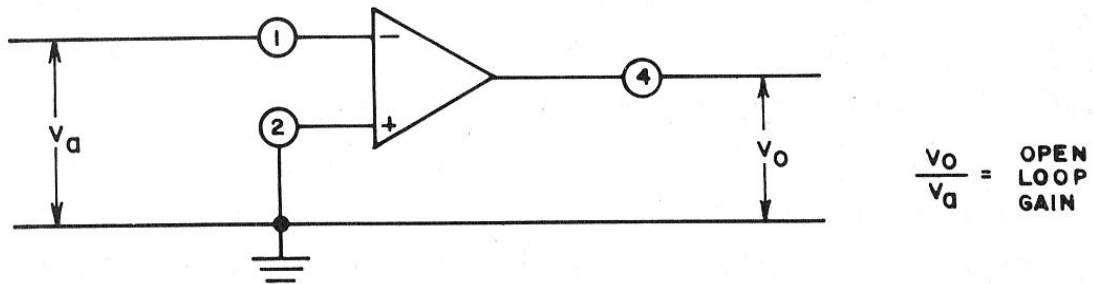

Figure 2-5. Open-loop amplifier circuit.
The first and simplest op-amp circuit is what we call an *open loop amplifier*, which is shown in Figure 2-5. The *ratio* of the output to input voltage, V_o/V_a , is called *open loop gain*.^{*} The gain of a good op-amp is large, sometimes as much as 10^5 . This is great, but if our trusty op-amp has a maximum output voltage of, say, 10 volts, and if $V_o/V_a = 10^5$, an input of $V_a = 10^{-4}$ volt will drive the op-amp to saturation.[†] Stray voltages of 10^{-4} volt are all too common, and open loop circuits are used *only* for switches that are ON or OFF.
If $V_a = 0$, we would have $V_1/R_1 = -V_0/R_0$, or $V_0/V_1 = R_0/R_1$, the *gain law* for this circuit. The next problem is to convince ourselves that V_a – the voltage at point (1) with respect to ground – is zero. Recall from our discussion of an open loop amplifier (Figure 2-5) that the gain, which we will now call A , was defined as V_0/V_a . It follows that $V_0/A = V_a$. If A , however, is infinite, then $V_a = 0$. And one of the properties of our ideal op-amp is that it has infinite gain. This was what we needed to prove that $V_0/V_1 = -R_0/R_1$.